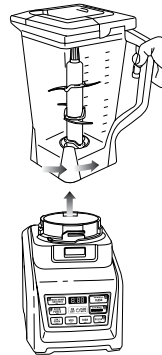

Fig. 9
- 15 Turn the pitcher anticlockwise to remove and then lift off the base. (Fig. 9)